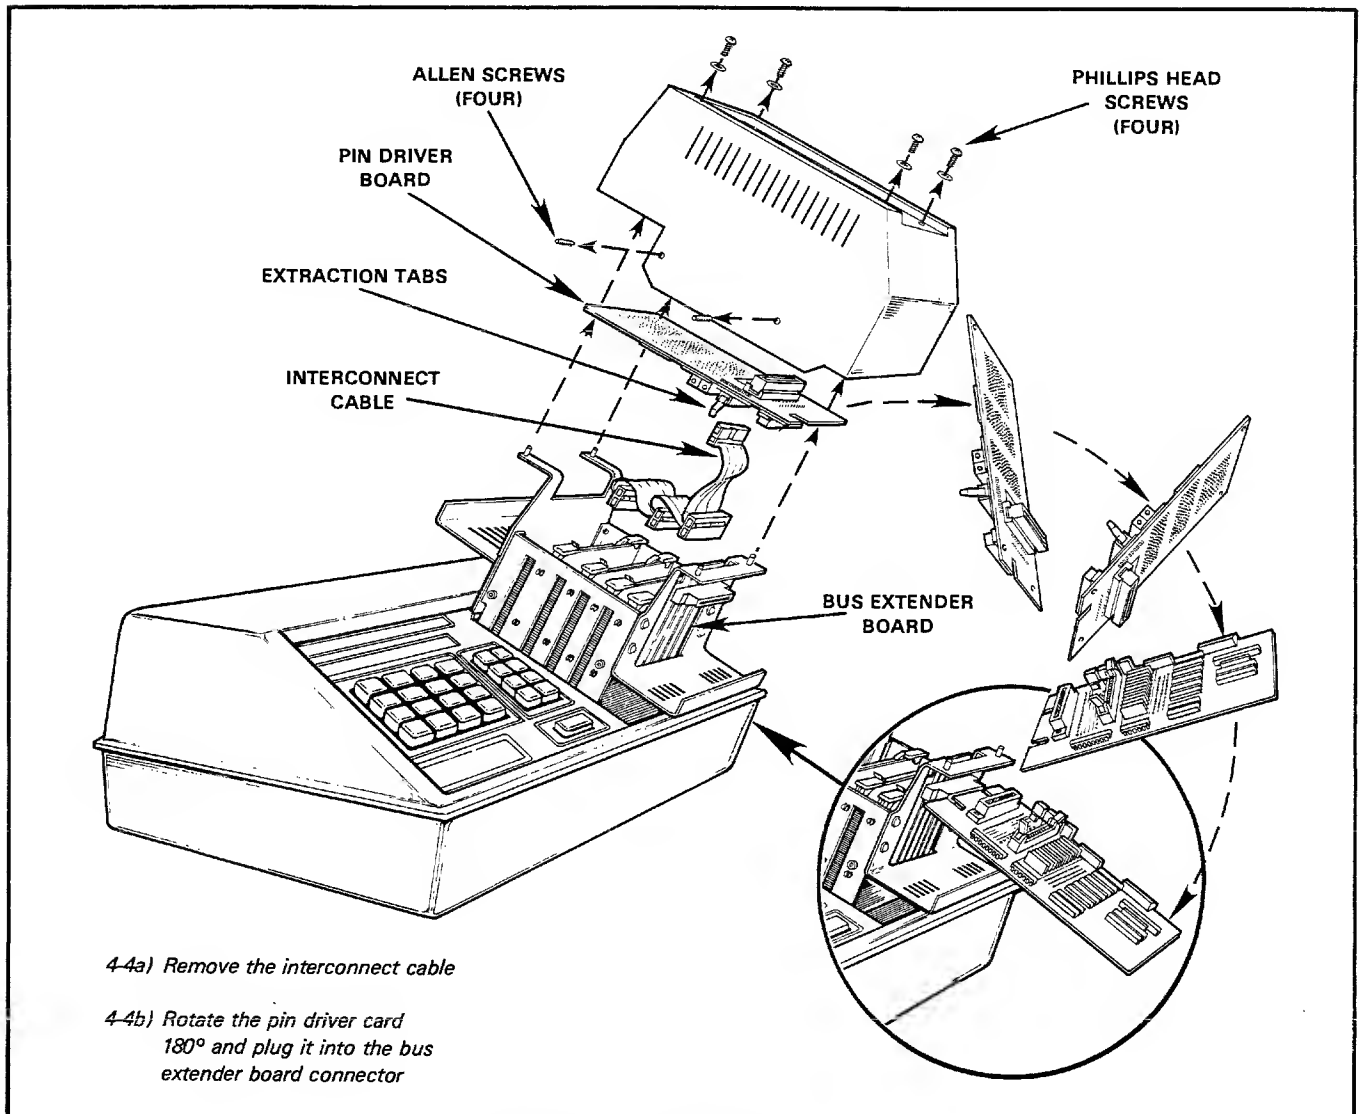

Figure 4-4. LogicPak™ Disassembly
4. Remove the four phillips-head screws from the LogicPak™ cover (see figure 4-4).
5. Remove the two allen screws on each side of the LogicPak™ cover (see figure 4-4).
7. Unplug the pin driver board (702-1943-001) from the bus extender board and lift it slightly until you can see the interconnect cable and its connector (figure 4-4).
8. Flip the extraction tabs out on each side of the connector (figure 4-4).
11. Lift the extraction tabs on each side of the three forward circuit cards as shown in figure 4-4.
12. Unplug the interconnect cable from the three connectors shown in figure 4-4.
8. Rotate the pin driver board back 180° (the opposite of what is shown on figure 4-4) and insert the interconnect cable into the connector on the pin driver board.
9. Plug the pin driver board into the bus extender board as shown in figure 4-4.